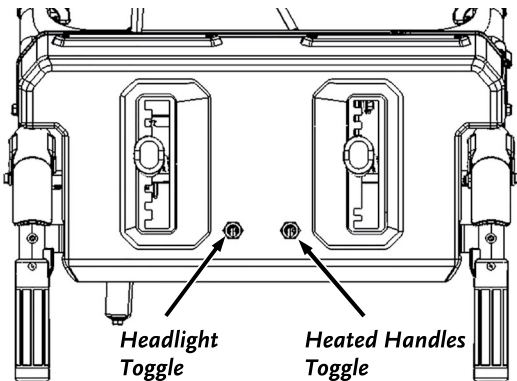

Figure 33
1. Move the Toggle to the forward (ON) position to turn on the Heated Grips (**Figure 33**).
1. Move the Toggle to the forward (ON) position to turn the Headlight on (**Figure 33**).